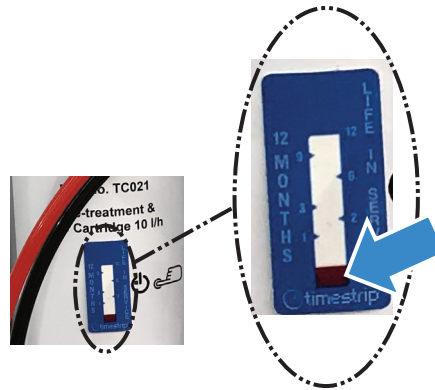

Figure 7. Red line shows RO module 12-month timer is activated.
- Press firmly at the center of the 12-month timer label sticker until a thin red line appears. See Figure 7.